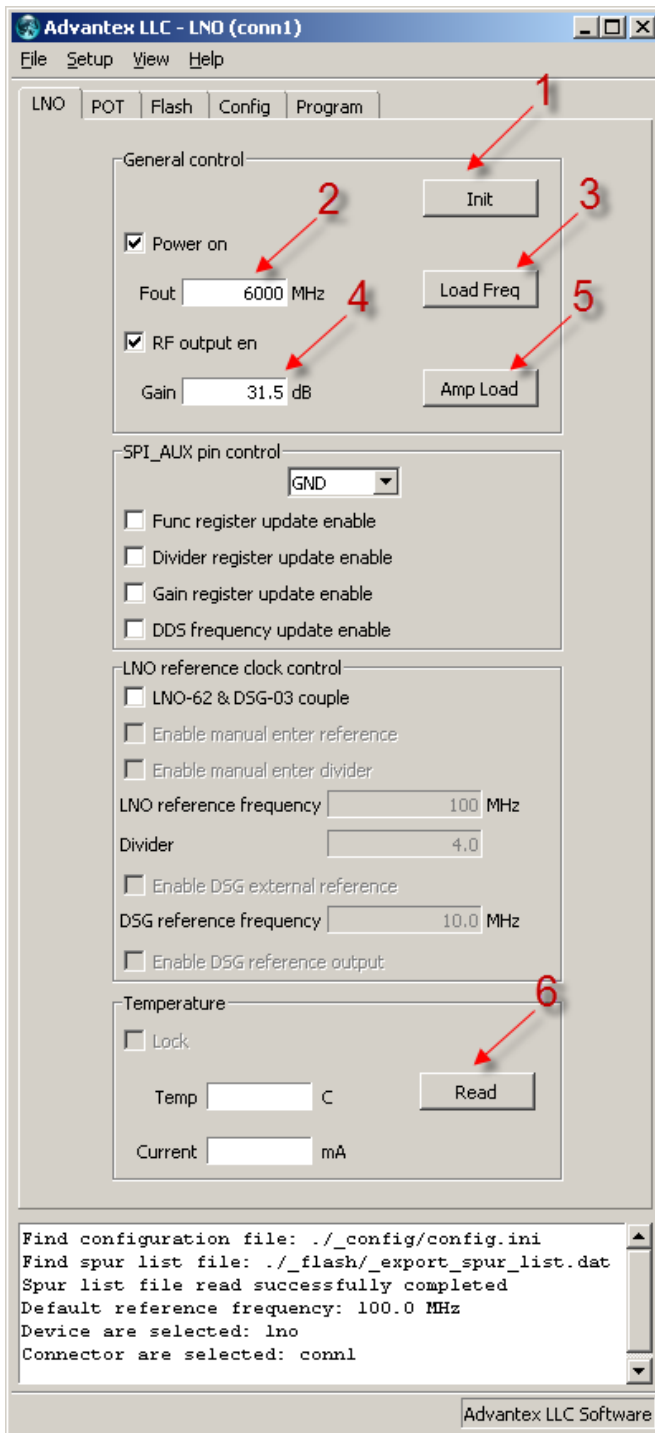
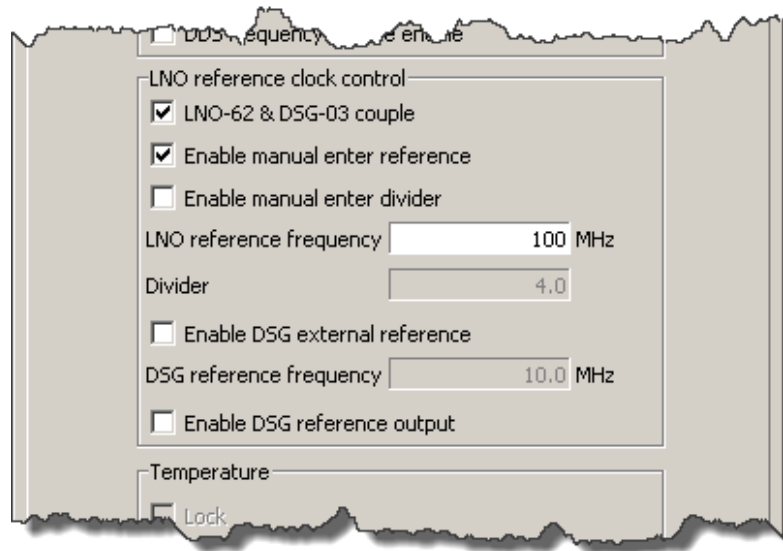

Figure 8: LNO tab
Figure 9: LNO reference frequency source control
9. To start working with LNO-module press **Init** button (fig. 8, Item 1), then you can load frequency or output level without **Init** button. To load frequency you need to set value in MHz (Item 2) and press **Load** button (Item 3). Output level adjustment is implemented by loading a gain value (Item 4) which is in range 0 to 31.5 dB with 0.5 dB step. It corresponds to the digital attenuator setting, where 0 - maximum attenuation, 31.5 - minimum attenuation. You can read the internal temperature of the block and the output stage drain current by pressing **Read** button (Item
10. In LNO+DSG configuration the DSG synthesizer is used as the reference frequency source for the high frequency LNO synthesizer. Choosing the right LNO reference frequency value defines the quality of LNO RF Out signal (in terms of spurs). You can set this frequency manually by setting the Enable manual reference checkbox or automatically (the checkbox is unset). In this case new reference frequency is calculated each time you press Load Freq button using the frequency table located in `_export_spur_list.dat` data file. If you need to use DSG external reference, please check the box Enable DSG external reference (fig. 9), set the DSG reference frequency value in range 1 to 250 MHz and press Init button (fig. 8, Item 1). Each change of any checkbox setting requires the pressing of Init button to load new settings to the hardware.